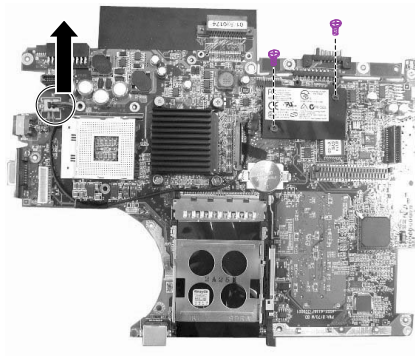

Figure 2-30 Remove the Modem card
3. Remove the two screws fastening the modem card, and then disconnect the cable from system board. (Figure 2-30)